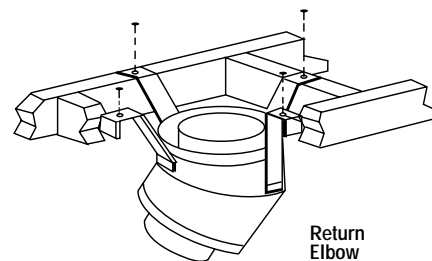

Figure 42
Step 5. Secure support straps to framing members by nailing under tension in shear (Figure 42).